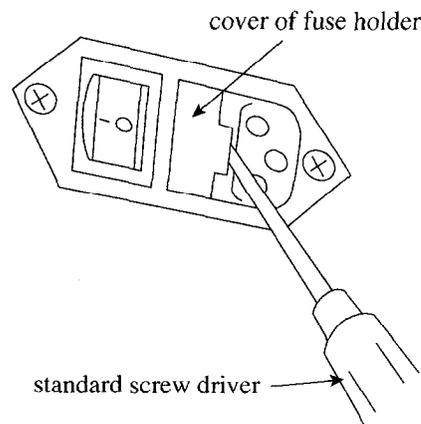

Fig.11.5.1 Opening the fuse holder cover
- (1) Turn OFF the power.
- (2) Remove the power cord from the power connector.
- (3) Use a standard screwdriver to open the cover on the fuse holder, as shown in Figure 11.5.1.